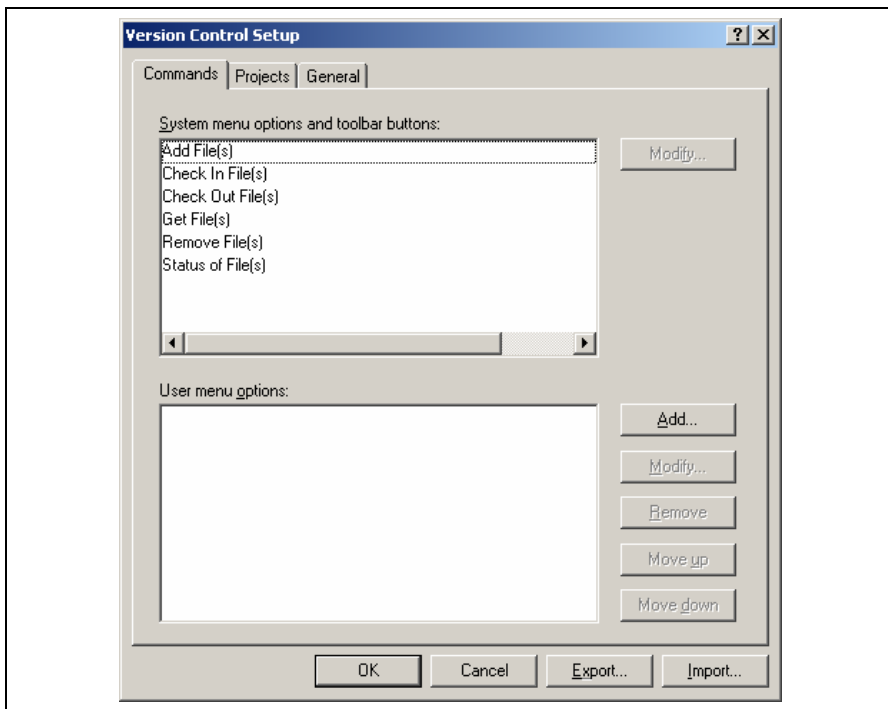
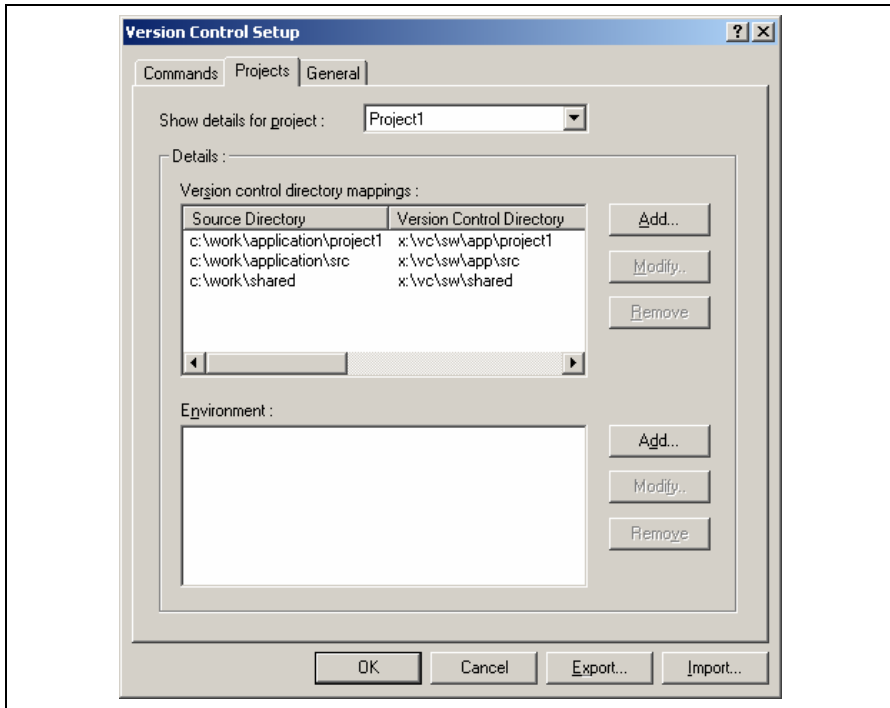

Figure 8.1: Version Control Setup Dialog Commands Tab
Figure 8.7: Version Control Setup Dialog Projects Tab
The custom version control support allows you the most flexibility in specifying how a version control system is to be used. To configure it, select **[Version Control->Configure...]**. The “Version Control Setup” dialog will be displayed (figure 8.1).
1. Select [**V**ersion **C**ontrol->**C**onfigure...]. The dialog shown in figure 8.1 will be displayed.
1. Select [**Version Control->Configure...**]. The dialog shown in figure 8.1 will be displayed.
However, when executed, this command can only ever get the file MAIN.C. To resolve this problem, HEW uses a system of placeholders and directory mappings. The latter tell the HEW which "working" directories (i.e. where source files are being worked on) map to which "controlled" directories (i.e. where the source files are stored in the version control system). Mappings between these two directory systems can be specified via the "Projects" tab of the "Version Control Setup" dialog (figure 8.7).
1. Select [**Version Control->Configure...**]. The dialog shown in figure 8.1 will be displayed. Select the “Projects” tab, and the dialog shown in figure 8.7 will be displayed.
1. Select [**Version Control->Configure...**]. The dialog shown in figure 8.1 will be displayed. Select the “Projects” tab, the dialog shown in figure 8.7 will be displayed.
Select the “Projects” tab of the “Version Control Setup” dialog to view the current settings (figure 8.7).